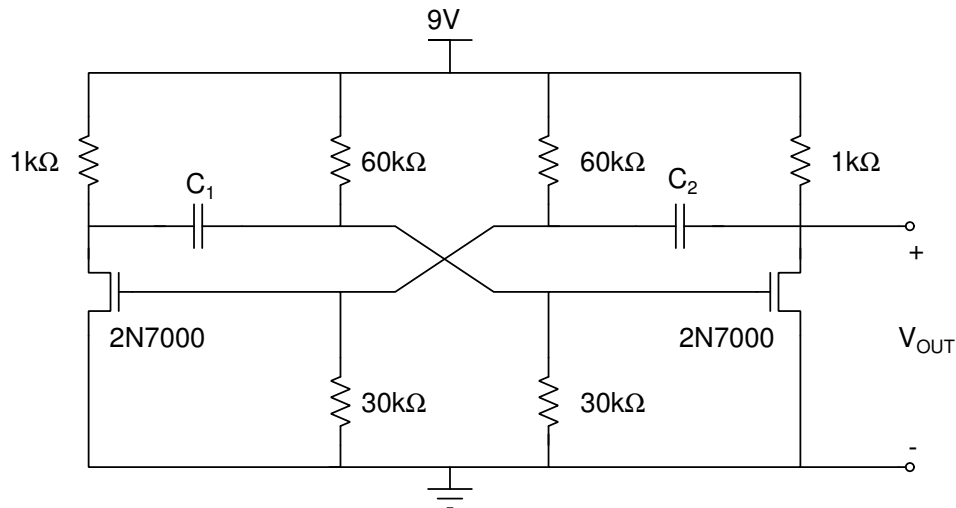

Figure 5: Astable multivibrator circuit with custom capacitors.
8. The multivibrator circuit will be used to drive the boost-circuit you built and tested in Lab 8. Modify the design of the multivibrator to match the best frequency and duty cycle determined in Lab 8. This is best accomplished by keeping the resistor values constant and adjusting the capacitance values C_1 and C_2 shown in Figure 5.